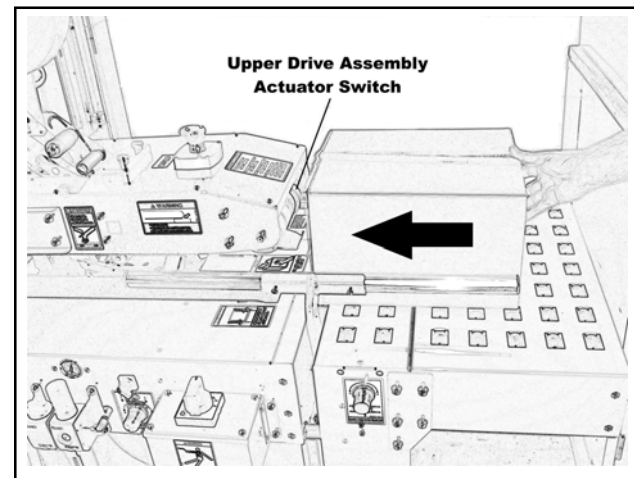

Figure 3-8—Upper Drive Assembly Actuator Switch
2. Once the box is centered by the guides, the operator pushes the box against the raising switch on the upper drive assembly, as shown in Figure 3-8, two air cylinders raise the upper drive assembly. The upper taping head will continue to rise above the box height so the operator can insert the box underneath the upper drive belts.